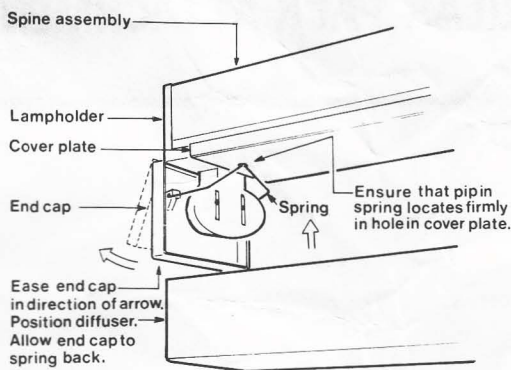

Fig. 5. Single Diffusers
3. Remove end caps from the carton and ensure that springs are firmly located in their lugs (See Figs. 5 and 6).
7. Hold diffusers at one end and place into end cap at the opposite end. Ease back the end cap at the near end in direction of arrow (See Figs. 5 and 6). Position diffuser and allow end cap to swing back to locate around the diffuser. Ensure that both end caps are firmly located round the diffuser.